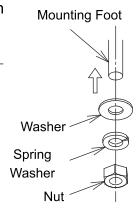

Figure 3:
- ③ Insert the mounting feet of the product into the mounting holes and refer to Figure 3 for the assembly of the nuts and washers, then tighten the nuts with the recommended torque. (Recommended tightening torque: $0.7 \pm 0.1 \text{ N} \cdot \text{m}$)
- ④ Confirm that the product and mounting assemblies are attached correctly.